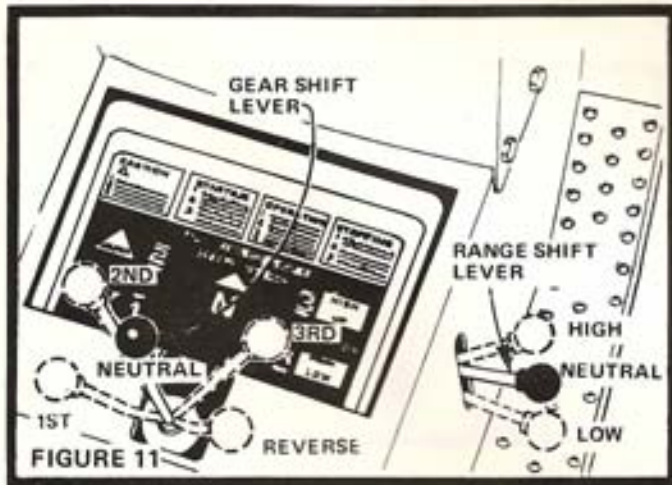

FIGURE 11
3. Place Gear Shift Lever in neutral "N" position (Fig. 11).
4. Move Range Shift Lever to "N" neutral position (Fig. 11).
For pushing and towing your tractor, place Gear Shift Lever and Range Shift Lever in "N" (Neutral) position (Fig. 11). NOTE: DO NOT TOW YOUR TRACTOR FASTER THAN SIX MILES PER HOUR.